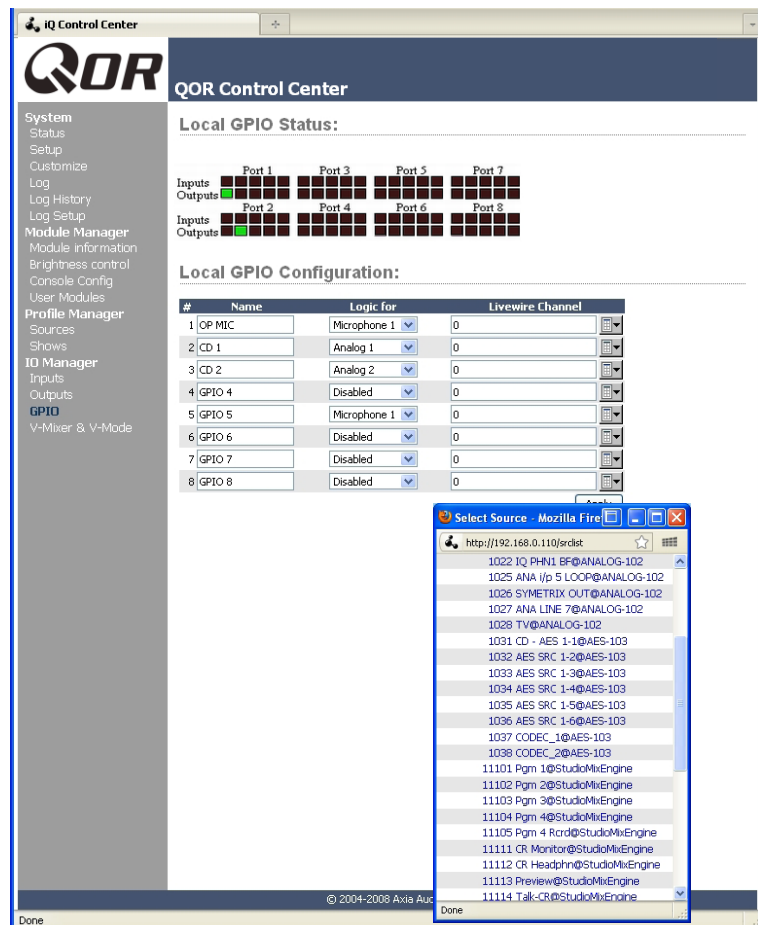

Figure 2-8: GPIO Configuration
5. Now point your browser to the iQ **GPIO Configuration** screen (Figure 2-8). You may also use a GPIO Node in lieu of iQ's built-in GPIO ports; just point your browser to that Node's IP address instead.
6. The GPIO setup screen uses the same method of assigning devices to ports as other Livewire devices. Pick a port to map your Phone channel's contact closures to, using the list tool, and click **Apply**. Figure 2-8 shows the GPIO section of an iQ. (Axia Element consoles and GPIO nodes are similar, and also have eight GPIO ports.)